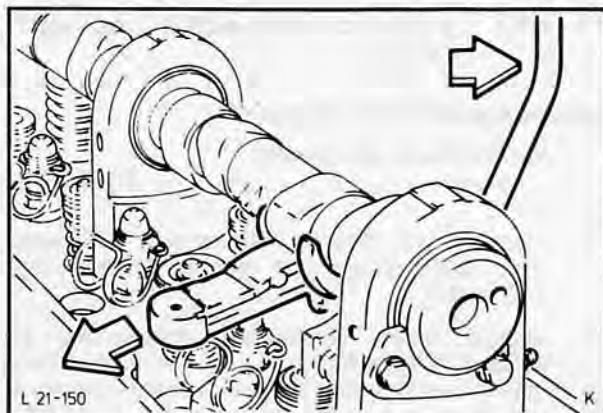

Fig. 173. Remove cam follower with Special Tool 21-005-A, 'B' engine
1. On the 'B' engine, disconnect cam follower retaining spring, compress valve spring and retainer using Special Tool 21-005-A and take out cam follower, Fig. 173.